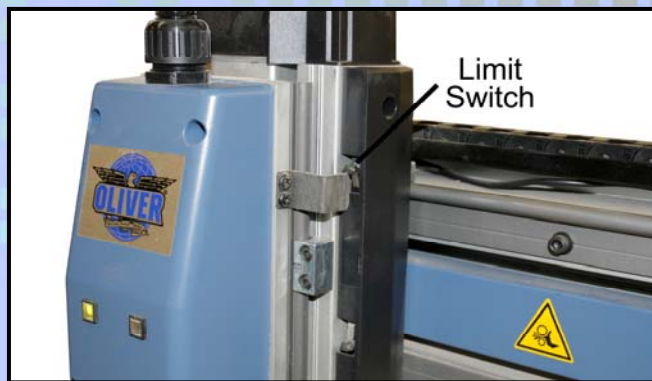

Figure-92 Z axis limit switch
1. Make Z axis return home by touching Z+ limit switch with a tool. Then, restart the machine. See figure-92.